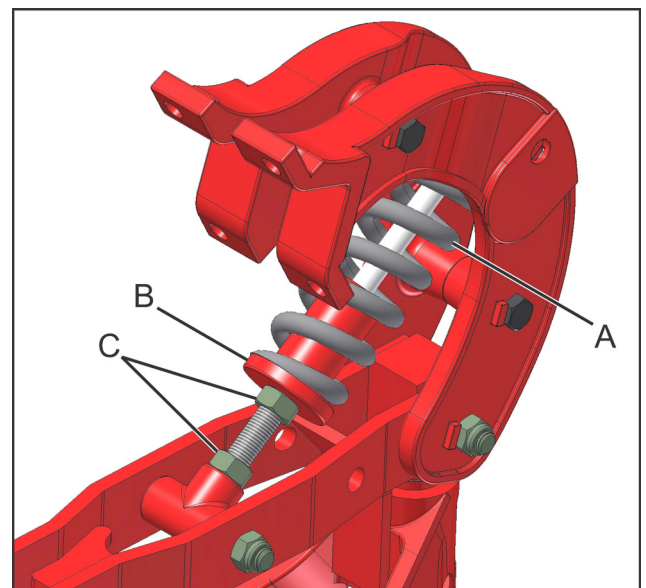

fig. 17
The depth of the cutting disc is determined by the increase in the spring pressure (A) (Fig. 17), which can be adjusted by means of an appropriate key by moving the guide (B), being locked by means of the nuts (C). Note that the adjusted measurement should be the same for all the springs of the lines.